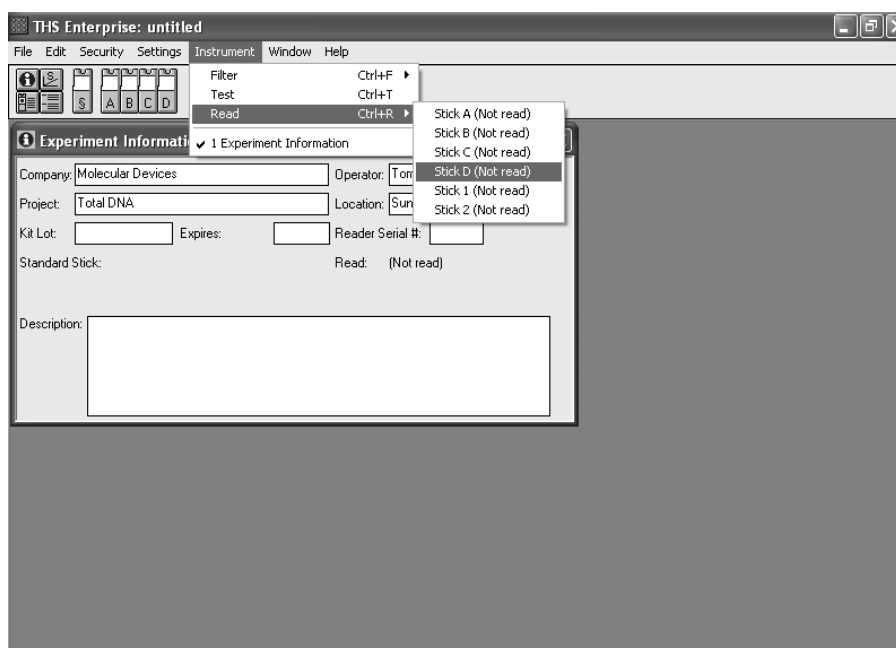

Figure 17-3: The Stick Read Menu
- 1) Select **Instrument, Read**, and highlight the name of the stick to be read. (Figure 17-3). Read the standard stick before reading the sticks containing unknowns. After a stick is read and data is stored under that heading, the date and time it was read appear next to the stick in the menu (instead of “not read”). Also, the Stick button on the toolbar shows a nine-dot pattern on its label.